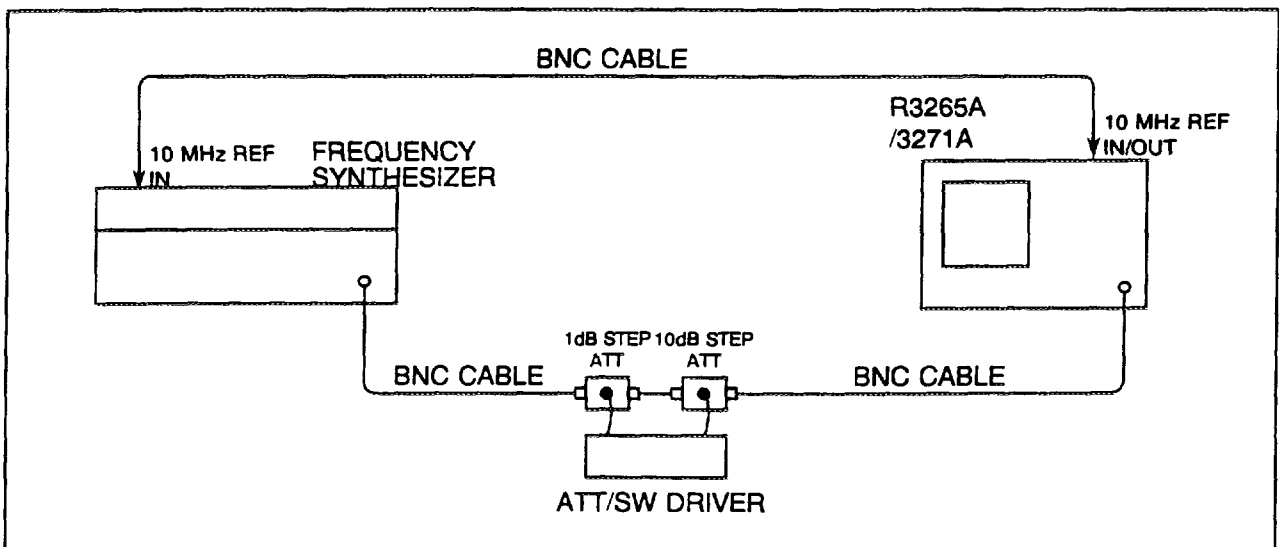

Figure 4-15 IF Gain Uncertainty Test Setup
(1) Connect the equipment as shown in Figure 4-15.
(2) Set the frequency synthesizer controls as follows: